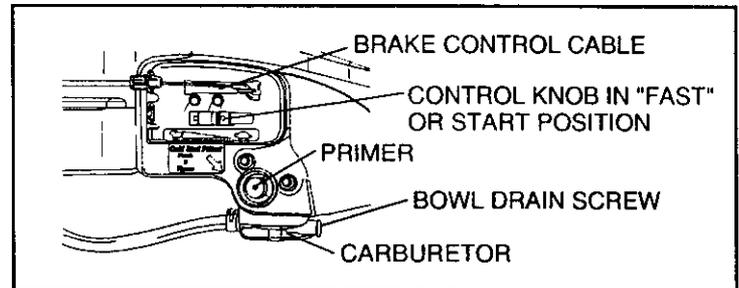
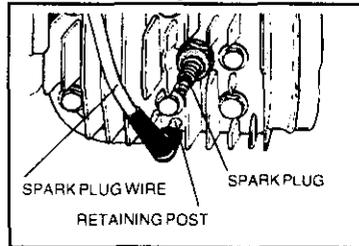

Figure 2
Figure 6
- ① **READ ALL INSTRUCTIONS PROVIDED WITH THE EQUIPMENT ON WHICH THIS ENGINE IS USED.**
- ② **DISCONNECT SPARK PLUG WIRE FROM SPARK PLUG AND ATTACH IT TO RETAINING POST (see Figure 6 on Page 3).**
- ③ **INSTALL ENGINE BRAKE CABLE AND STARTER ROPE:**
**BRAKE CABLE (see Figure 2):**
**NOTE:** See equipment manufacturer's instructions for control positions which correspond to engine control positions in Figure 2.
- 1) Move control lever (figure 2) to "FAST" or "START" (see equipment manufacturer's instructions).
**A. DISCONNECT SPARK PLUG WIRE FROM SPARK PLUG AND ATTACH IT TO RETAINING POST (see Figure 6).**
<ol style="list-style-type: none"> <li>1. Disconnect spark plug wire from spark plug and attach to retaining post (figure 6).</li> <li>2. Clean area around oil drain plug.</li> <li>3. Position equipment so engine oil drain plug is lowest point on engine.</li> <li>4. Remove oil drain plug.</li> <li>5. Remove oil fill plug and drain oil.</li> <li>6. Replace oil drain plug and tighten securely.</li> <li>7. Fill oil sump with recommended oil.</li> <li>8. Replace oil fill plug and tighten securely.</li> <li>9. Wipe up any spilled oil.</li> </ol>	<ol style="list-style-type: none"> <li>1. Disconnect spark plug wire from spark plug and attach to retaining post (figure 6).</li> <li>2. Run engine until engine stops from lack of fuel.</li> <li>3. Remove oil fill cap.</li> <li>4. Place a container next to engine to catch draining oil.</li> <li>5. Tip engine on its side to drain oil, making sure that air cleaner is facing up (see illustration below).</li> <li>6. Clean area around oil fill.</li> <li>7. Fill oil sump with recommended oil.</li> <li>8. Replace oil fill cap and tighten securely.</li> <li>9. Wipe up any spilled oil.</li> </ol>